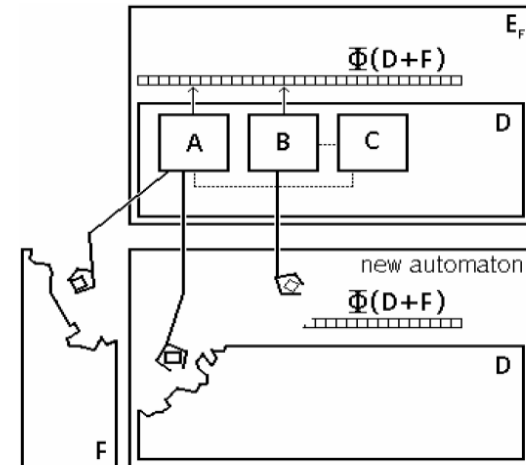

Figure 2: Schematic view of von Neumann's theoretical self-replicating machine. A: general construction machine; B: general copying machine; C: control machine.
**Figure 2:** Schematic view of von Neumann's theoretical self-replicating machine. *A*: general construction machine; *B*: general copying machine; *C*: control machine.